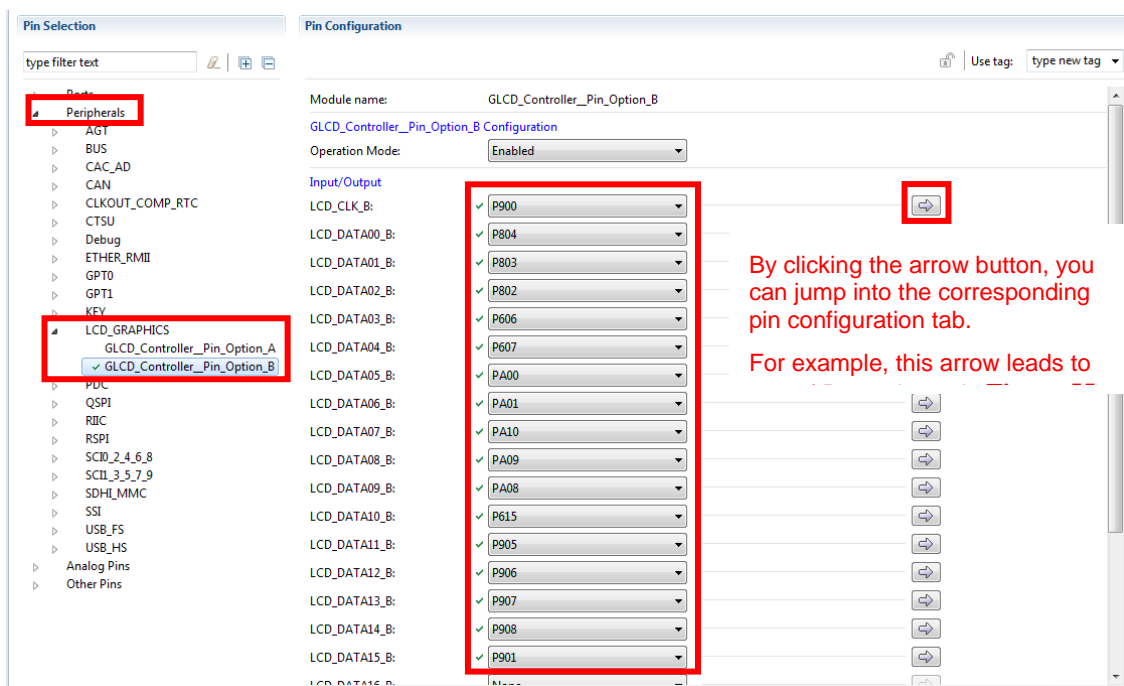
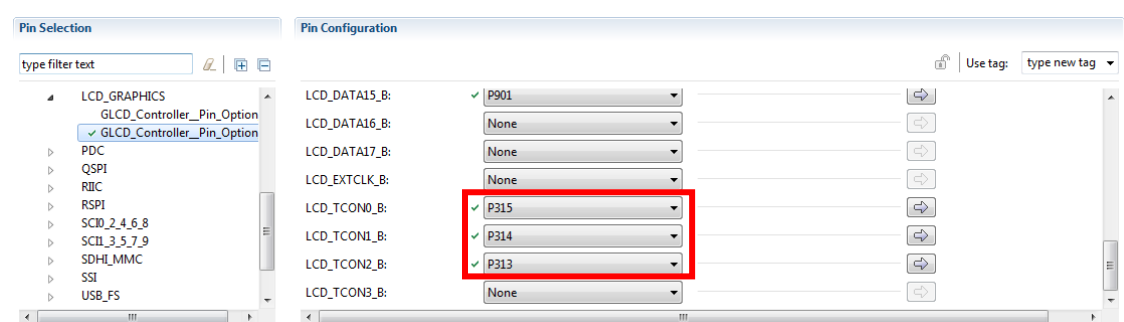

Figure 56 Pin assignment for GLCD_Controller_Pin_Option_B
Figure 57 Pin assignment for GLCD_Controller_Pin_Option_B (continued)
- You can confirm which pins would be used for GLCD_Controller_Pin_Option_B shown in Figure 56 and Figure 57 below.